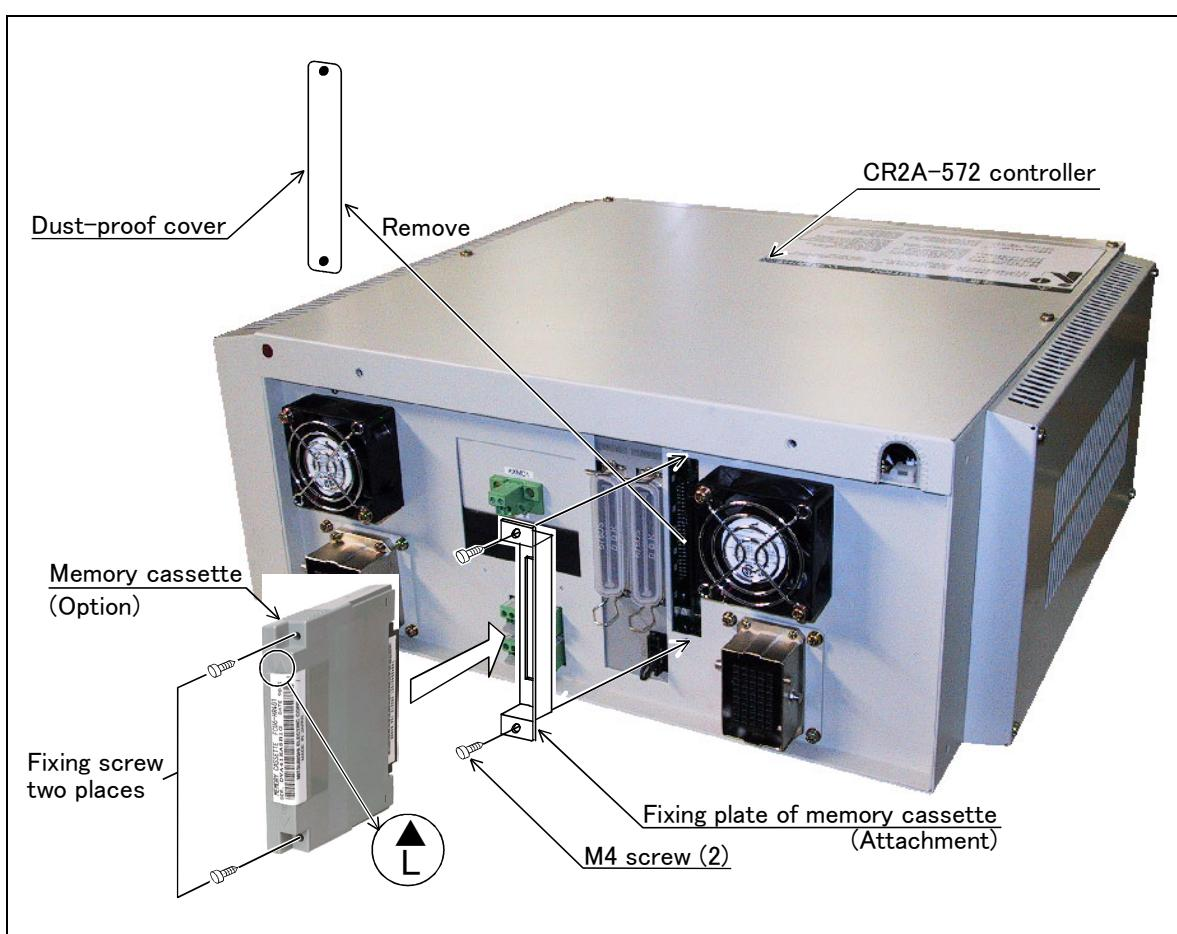

Fig.3-37 : Installation method of extension memory cassette
- As shown in Fig. 3-37, insert the memory cassette all the way to the back with the "L" facing up.